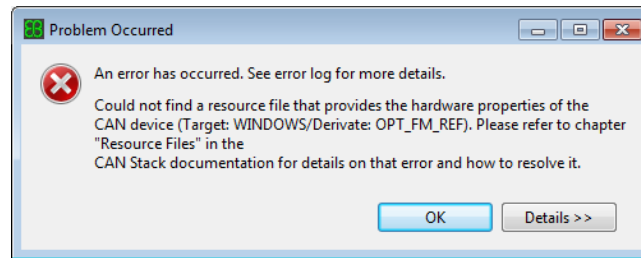

Figure 4.1. Missing resource file error message
The CAN Buffer Assignment Editor and the CAN Bit Timing Editor stop with the error message displayed in Figure 4.1, “Missing resource file error message” if no resource file could be found for the target and derivative of your Can module.
- ▶ *No resource file available for the derivative:* If your Can module only supports one derivative (i.e. it does not support sub-derivatives) and the error message in Figure 4.1, “Missing resource file error message” is displayed, this means that your Can module was shipped without any resource file.